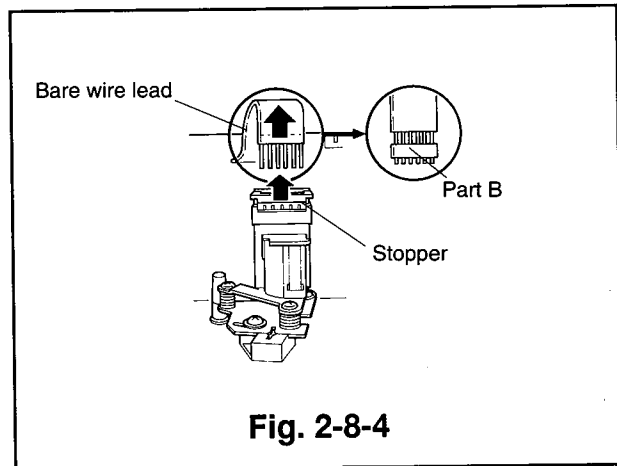

Fig. 2-8-4
- 3 Lift the stopper of the A/C head assembly in Fig. 2-8-4 slightly upward and disconnect the lead connector (bare wire), connecting the PCB-HEAD-AMP and the PCB-A/C-HEAD.
- 5 Shift part B of the bare wire lead extended from the head amp slightly downward, lower the stopper, and connect it to the connector on the PCB-A/C-HEAD. (Refer to Fig. 2-8-4)